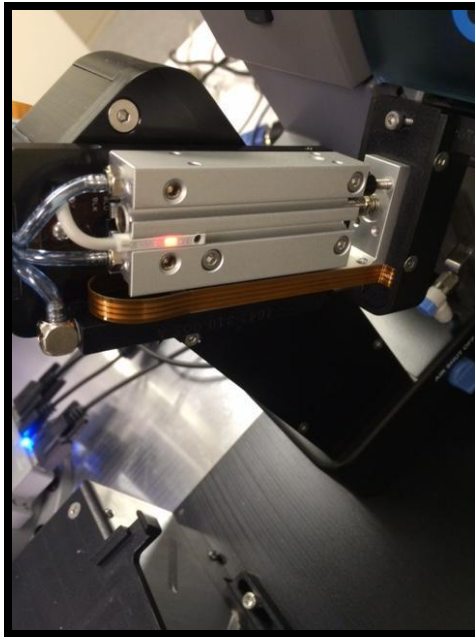

Figure 2.
- Figure 2 shows the arm without covers. Notice the Red LED light; this means the tamp is retracted.